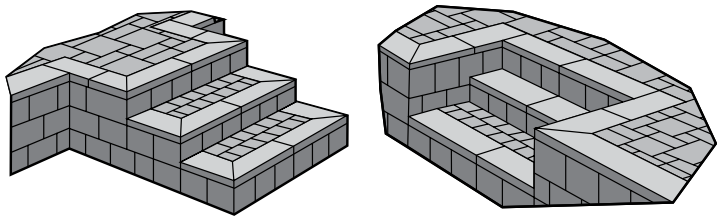

Figure 48. *Steps with infill landings.*
**Steps with infill landings** - The construction of steps with infill landings is no different from the construction of steps without landings except for the positioning of the higher steps. Once the first step is installed, lay a few pavers in the appropriate pattern to determine the best position of the next riser. This will minimize cutting the pavers. Make sure the pavers are 1/2” (13mm) above the height of the coping when installed, so they can be tamped down to the level of coping (Figure 48).